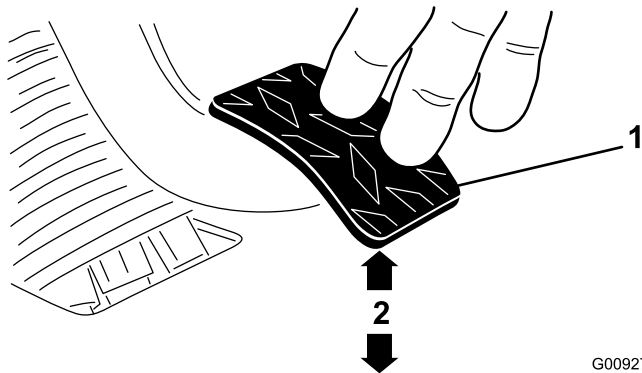

**Figure 69**
1. Loosen the jam nuts securing the clutch cable to the bracket on the bell housing (Figure 69).